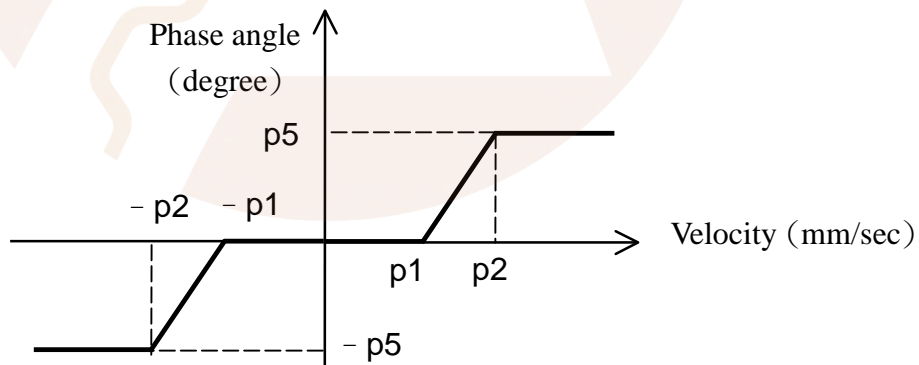
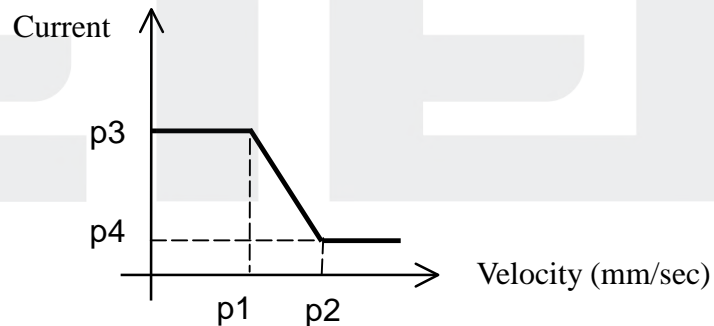

Figure 5 Phase compensation table of field weakening
Figure 6 Modified current according to velocity
- p1 – starting velocity, in mm/s (for to Figure 5, Figure 6)
- p2 – final velocity, in mm/s (for to Figure 5, Figure 6)
- p3 – starting current; between 0 and 1 (for Figure 6)
- p4 – final current; between 0 and 1 (for Figure 6)
- p5 – final angle; in degree (for Figure 5)